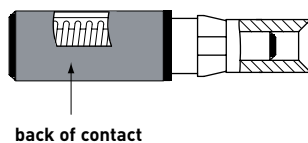

Fig. 3 - Female contact/fibre crimping area
- The data sheet for crimping tool **CLPZ R** explains how the crimping tool works and how to adjust the crimping depth and locator for the contacts to be crimped. Position the turret on 3, push and turn of 90° the knob of turret. Adjust the crimping depth on 2 (unscrew the allen screw, after adjusting refix the screw). For the female contact: unscrew the back of the contact, pull out the internal central part; on Figure 3 is indicated the crimping area (front part of contact). For male contact: crimp the front part of contact.